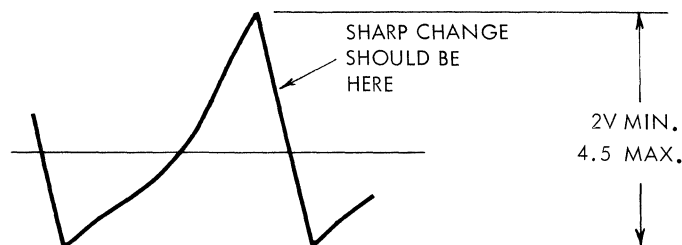

FIGURE 2.
- Disconnect black and white leads from transducer to terminal 8 and 9 of amplifier card. Connect the white lead from transducer to the scope probe, and connect the black lead to the scope ground. With the Emitter wheel operating continuously at low speed, the wave form must appear as shown in figure 2, with an output of 2 to 4.5 volts peak to peak.